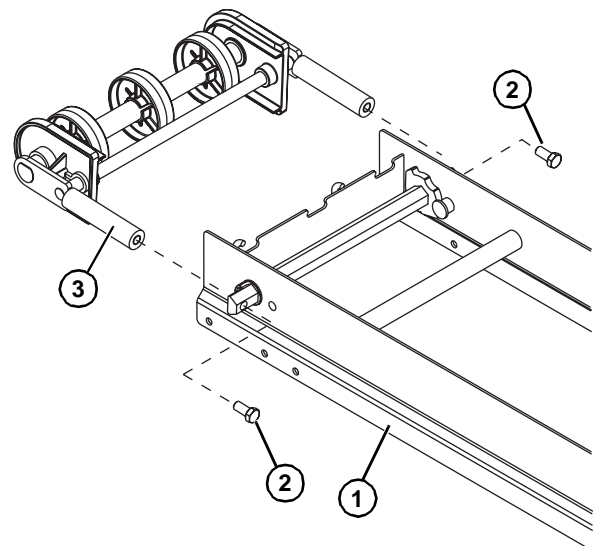

**Figure 17**
- Slide the tip up sleeves (**Figure 17, item 1**) and stop keys (**Figure 17, item 2**) outward on hex shaft assembly (**Figure 17, item 3**) until the sleeves seat in the holes of the frame and stop keys are seated against frame stops (**Figure 17, item 4**).